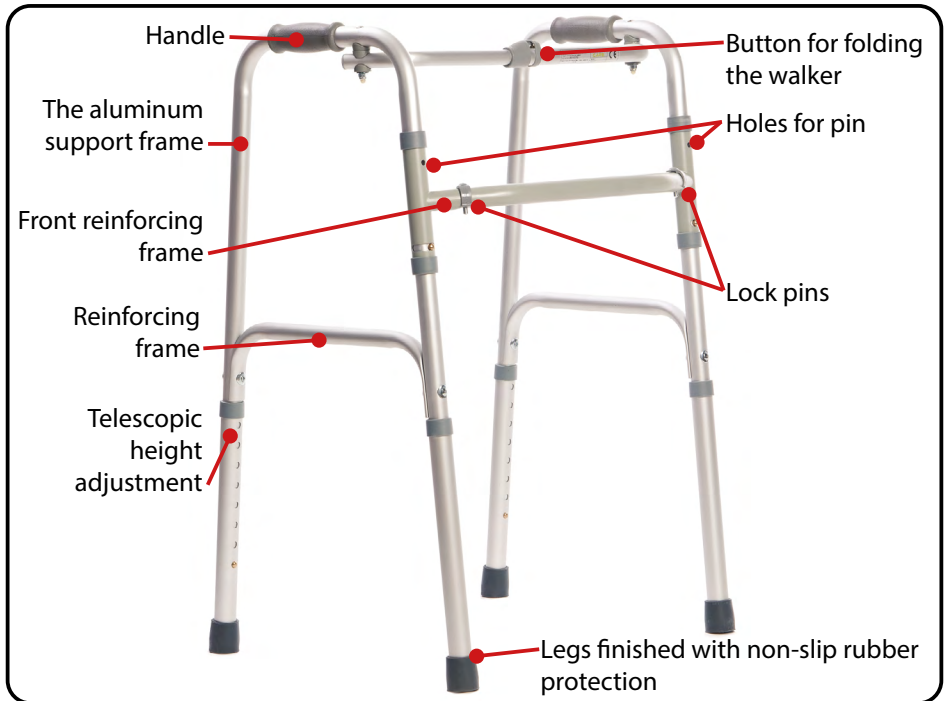

Figure 1.
- After unpacking the package, check if it contains all parts in accordance with the list of elements set out above (Figure 1).